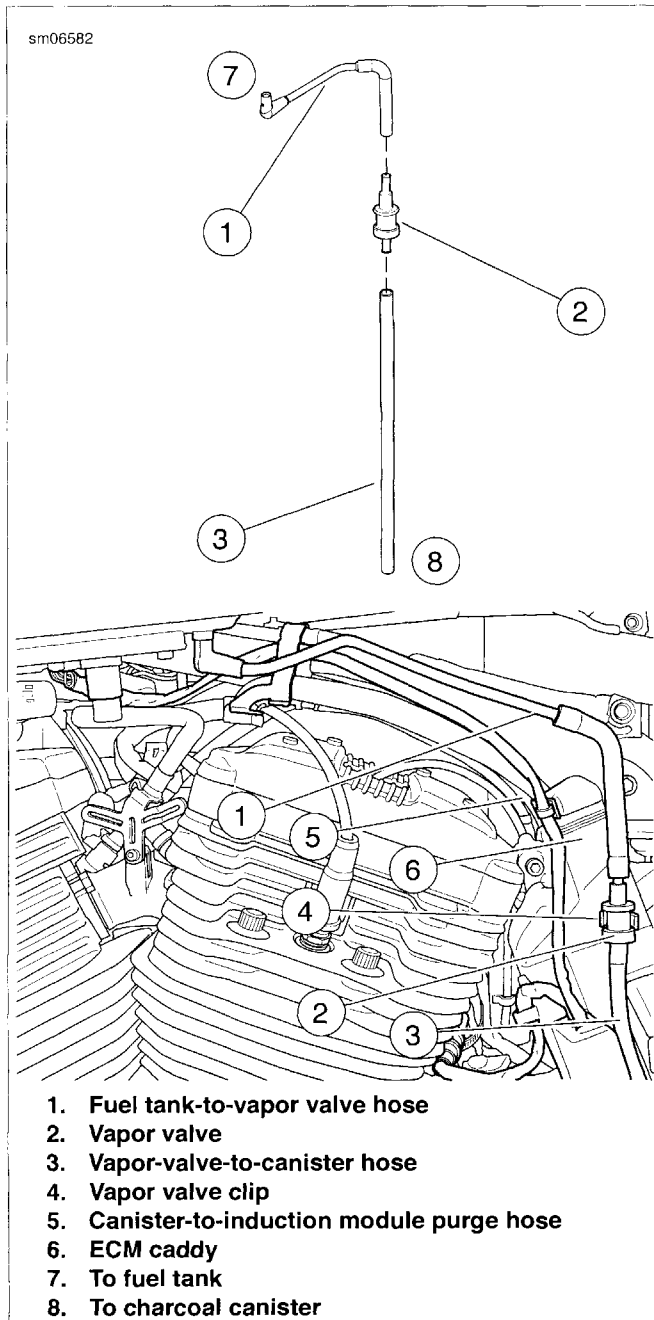
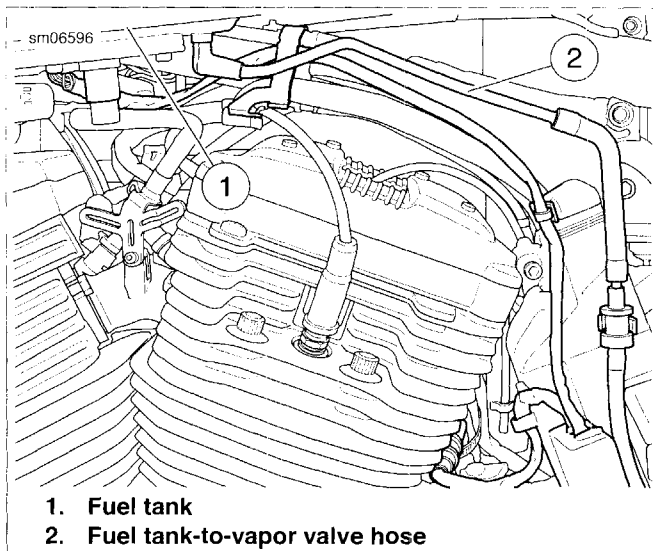

Figure 4-93. Vapor Valve and Hose Routing: XL California Models
Figure 4-95. Fuel Tank-To-Vapor Valve Hose Routing
2. See Figure 4-93. Carefully remove vapor valve (2) from clip (4) molded into H-bracket (6).
1. See Figure 4-93. Hold vapor valve (2) in an upright position with the long necked end pointing up. Insert top fitting of vapor valve into fuel tank-to-vapor valve hose (1). Install bottom vapor valve fitting into vapor valve-to-canister hose (3).
2. Carefully push body of vapor valve into clip (4) molded into H-bracket (6).
1. See Figure 4-93. Connect vapor valve-to-canister hose (3) and canister-to-induction module purge hose (5) to labeled fittings on left side of charcoal canister.
3. Connect vapor valve-to-canister hose to bottom of vapor valve (2).
4. Connect fuel tank-to-vapor valve hose (1) at top of vapor valve.
5. See Figure 4-95. Route fuel tank-to-vapor valve hose (2) forward along left side of frame backbone and connect to fitting on bottom of fuel tank (1).